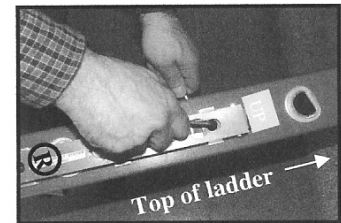

Figure 12
6.) Complete Mounting on Ladder Rail by sliding 3 mounting bolts, with all necessary spacer plates and / or thin washers, through the pre-drilled holes. **VERY IMPORTANT** - Install Base Units with “L” unit on **left** side of ladder and “R” unit on **right** side. Be sure base Unit is installed with red “UP” sticker on top. (Figure 1, 3, 10 & 12) Slide large fender washers over bolt ends and tighten the self locking nuts over them with a snug fit. Recommended torque is 9 foot pounds. Use 3/16” hex key to hold bolt head in position while tightening nut with 1/2” wrench or socket.(See Figure 12)